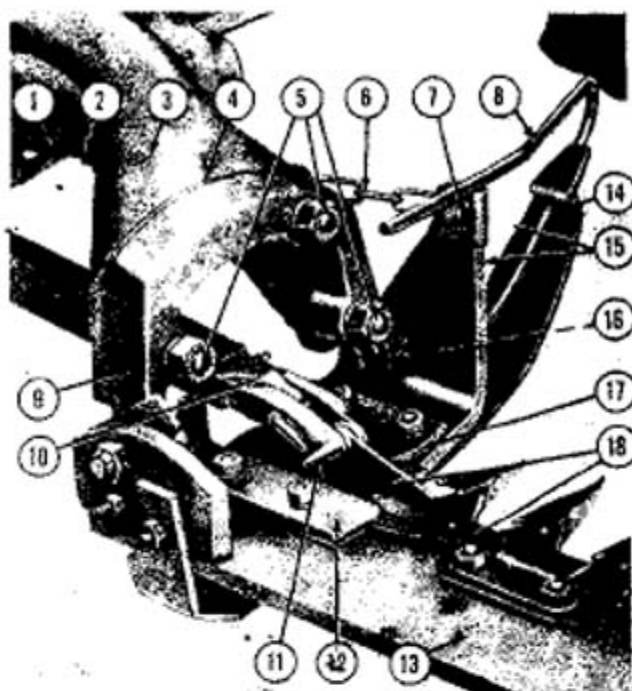
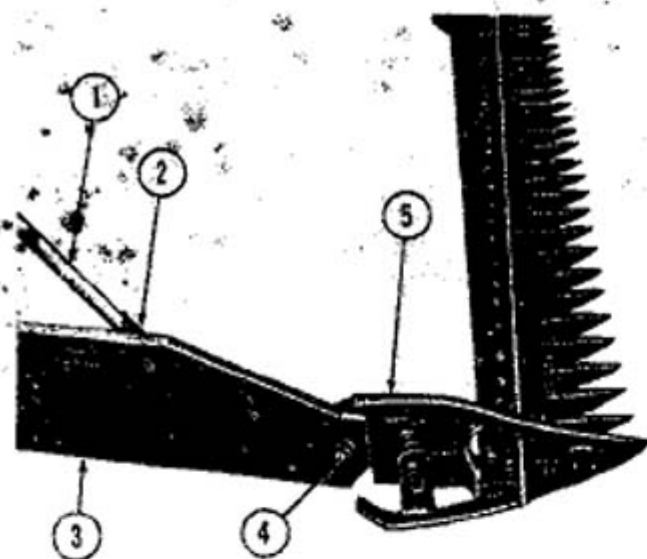
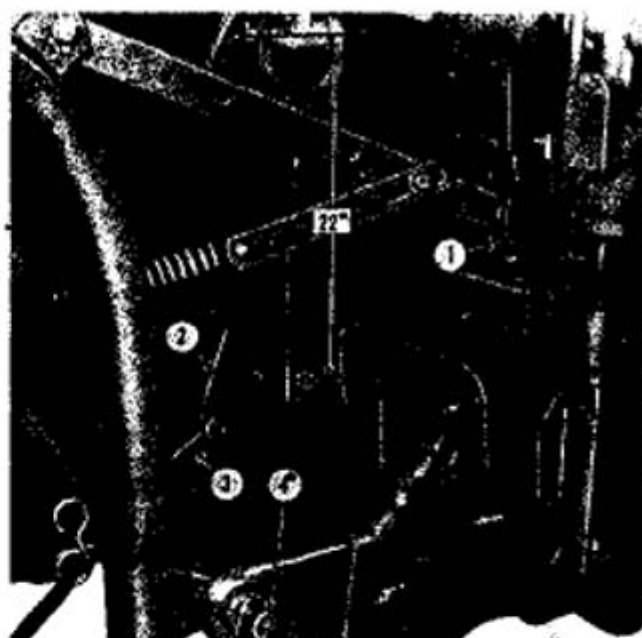

Figure 20
Figure 21
Figure 25
**Removing the Knife:** Snap the end of the lever (10), Figure 20, up and outward with the small hook on the transport rod. Lift the Pitman arm off the knife head ball with the large hook on the transport rod, and at the same time step on the lever (10) hard enough to press down the knife head ball and spread the Pitman arm straps. Slide the knife free.
- a. Insert three 3/4" x 3-1/2" carriage bolts (5), Figure 20, through the slots in the yoke end of the lower frame (3), and place the register shims (4) on the bolts. Place the cutter bar and Pitman arm in position, and push the bolts (5) through the three holes in the cutter bar yoke (9). Adjust the cutter bar tilt for approximate field conditions, and secure the bolts with lock washers and nuts.
- b. Raise the outer end of the cutter bar (13), Figure 25, and attach the transport rod as shown in Figure 2. Attach one end of the lift link chain (6), Figure 20, to the rod (1) with the 1/2" x 1-3/16" pin and a 1/8" x 1" cotter pin at (2). Attach the other end of the lift link chain to the lift bracket (15) on the inner shoe with the 1/2" x 1-1/4" pin and a 1/8" x 1" cotter pin as shown at (7). Remove the transport rod and lower the cutter bar to the ground.
- c. Install the grass rod (8) on the inner shoe by inserting it through the hole (14), removing the washers and the nut (16); then installing grass rod and reinstalling the flat washer, lock washer and nut (16) on the bolt, thus securing the grass rod to the shoe sole.
- a. Position the swathboard (3), Figure 21, on the right side of the outer shoe (5) and insert a 1/2" x 2-3/4" bolt (4) from the left through the swathboard.
- b. Place a spring and then a flat washer on the bolt (4), and secure with the slotted nut and cotter pin as shown.
- c. Insert the tapered end of the wooden grass stick (1), Figure 21, into the grass stick clamp and secure with the bolt (2), flat washer, lock washer and nut provided.
- a. Release the clamp straps (11), Figure 20, on the Pitman arm by prying the Pitman lever (10) toward the cutter bar.
- b. Insert the knife assembly (18), Figure 20, under the guides (12) and (17). Do not hammer or otherwise force knife; use a large screwdriver to guide it under knife clips as pressure is applied.
- c. Position the Pitman straps (11) on the knife head as shown in Figure 20, and snap the Pitman lever (10) back in place.
6. Attach the anchor assembly (2), Figure 25, to the inside of the tractor left-hand lower link as shown. Attach the top link bracket to the tractor with the link pin.
8. Secure the push rod (3), Figure 25, to the anchor assembly (2) as shown.
1. Attach the lower link pins (4), Figure 25, to the mower frame.